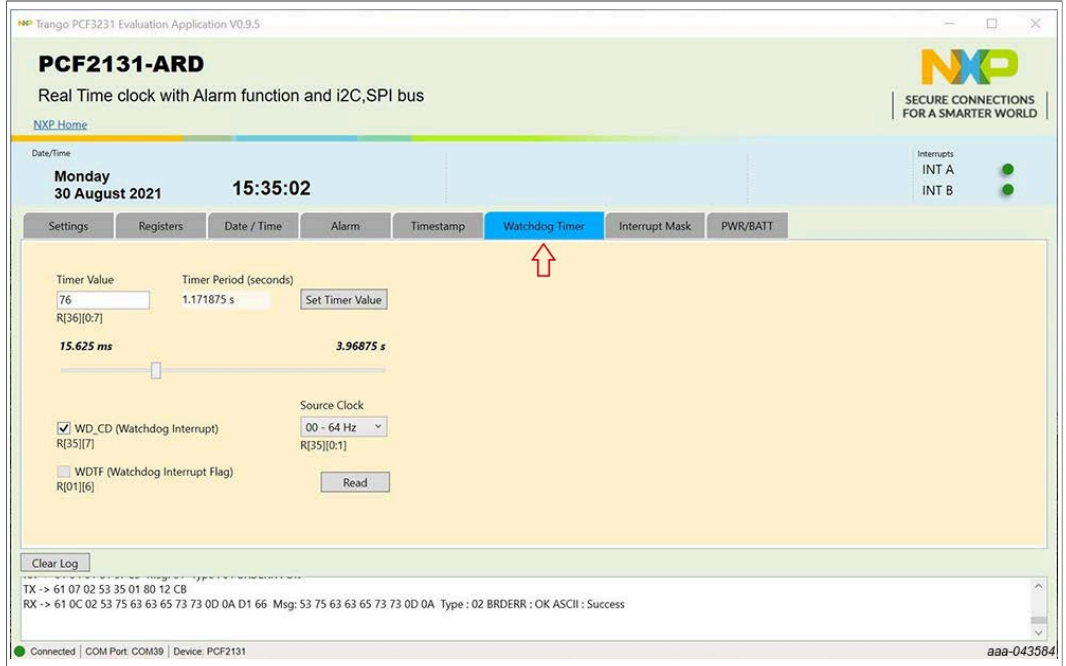

Figure 20. Graphical interface – “Watchdog Timer” tab activated
- **Watchdog Timer:** Figure 20. See the datasheet for more details regarding watchdog timer.